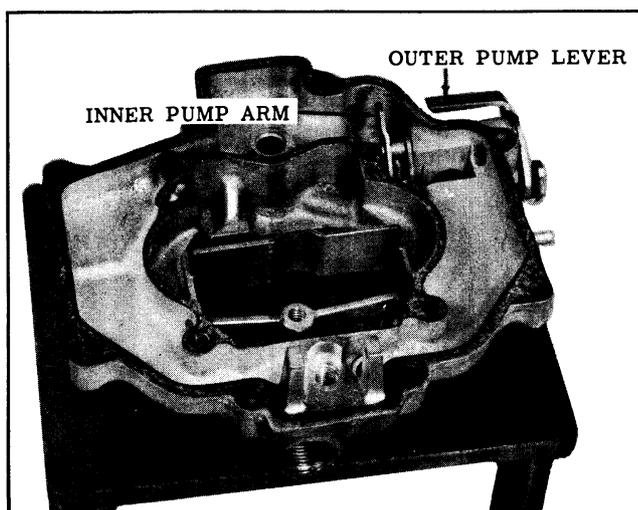

Fig. 8-134 Arm and Lever Installation
1. Assemble the outer pump lever and inner arm to air horn as shown in Fig. 8-134, then tighten set screw securely. Check to be sure shaft can rotate freely.